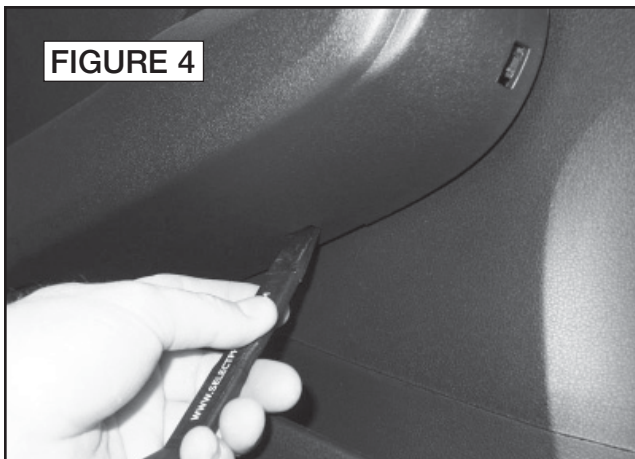

FIGURE 4
4. Push in three (3) clips along bottom of armrest, then pull off armrest cover to remove (Figures 4 & 5).